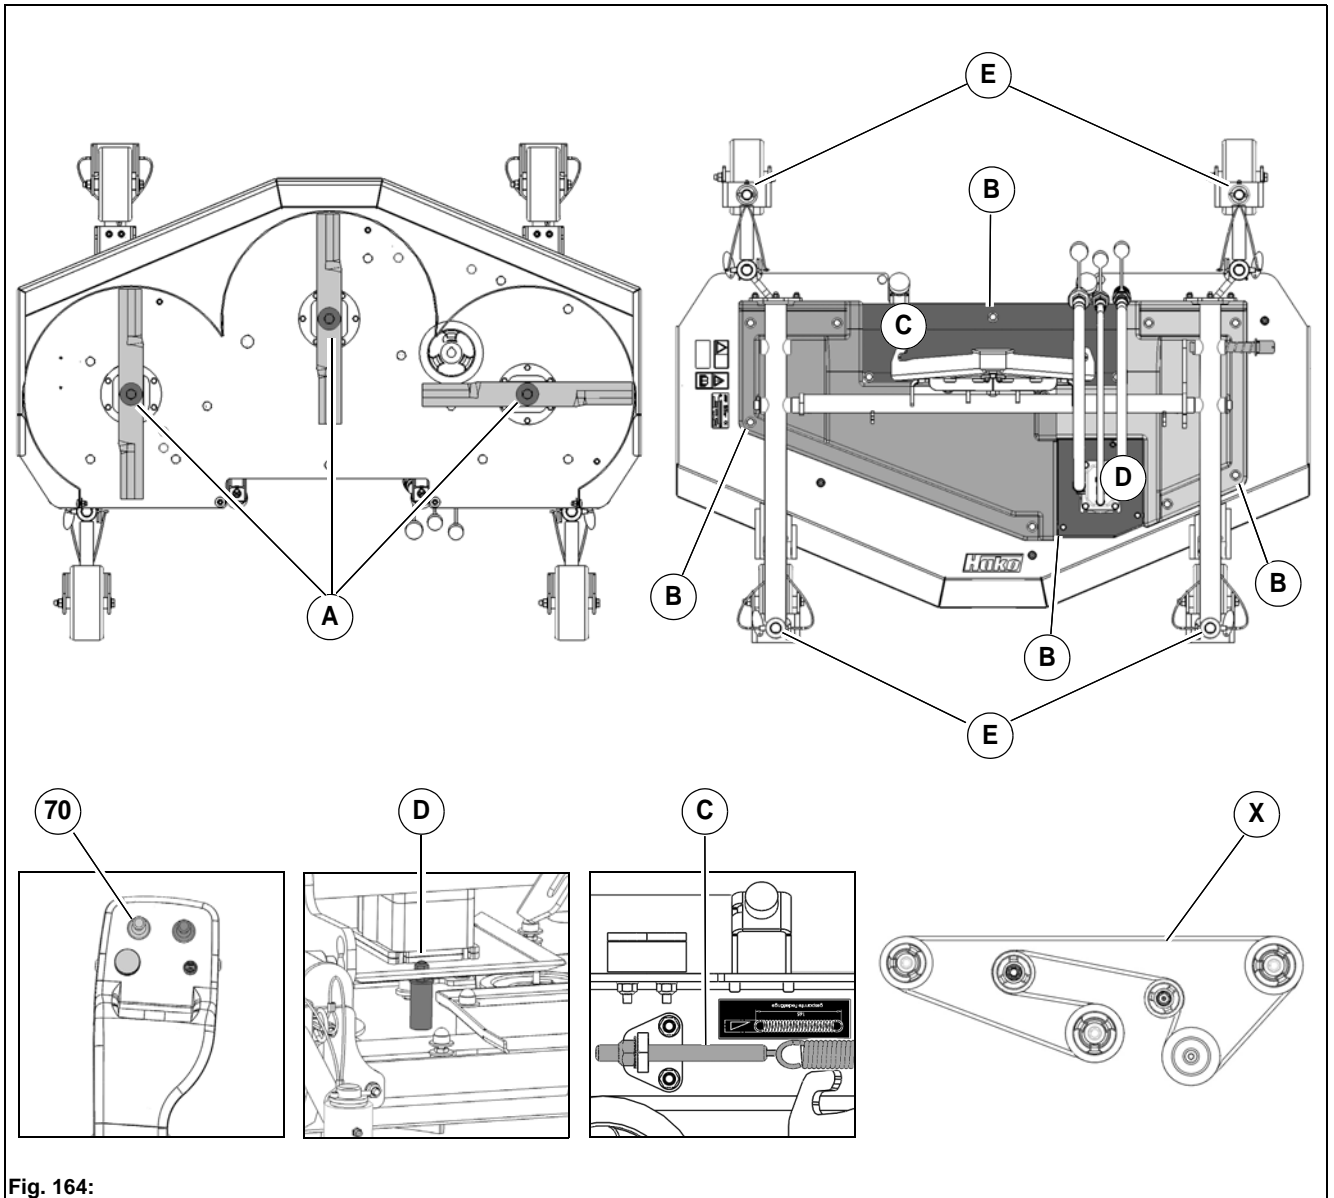

Fig. 164:
5. Pull the mounting bolt **Fig. 164-A** out and lower the mower with the joystick.
2. Loosen the screw **Fig. 164-A** and take off the disk and mowing blade.
2. Loosen the screws on the covers **Fig. 164-B** and remove the covers.
3. Relax the tension spring with the screw **Fig. 164-C** and unhook it.
4. Remove the screws of the gearbox holder **Fig. 164-D** and remove the defective V-belt.
5. Insert the new V-belt corresponding to **Fig. 164-X**.
- Bushes of the wheel holders **Fig. 164-E** (4 pcs.)